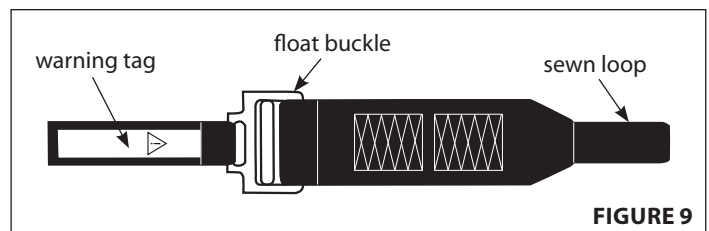

FIGURE 9
1. Hold float buckle so warning tag faces upward. **SEE FIGURE 9.**